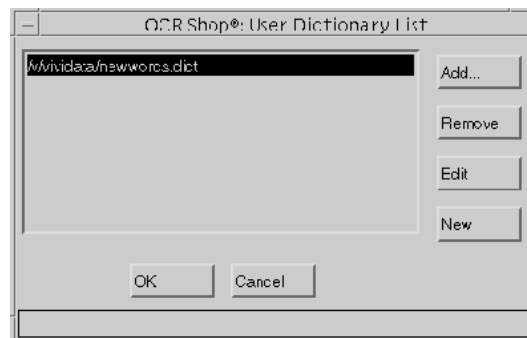

Figure 5-4 User Dictionary List
1. Choose User Dictionary... from the Options Menu. The User Dictionary List will appear as shown, see Figure 5-4. The scrolling list contains all user dictionary files in the directory.
1. Choose User Dictionary... from the Options Menu. The User Dictionary List will appear; see Figure 5-4.